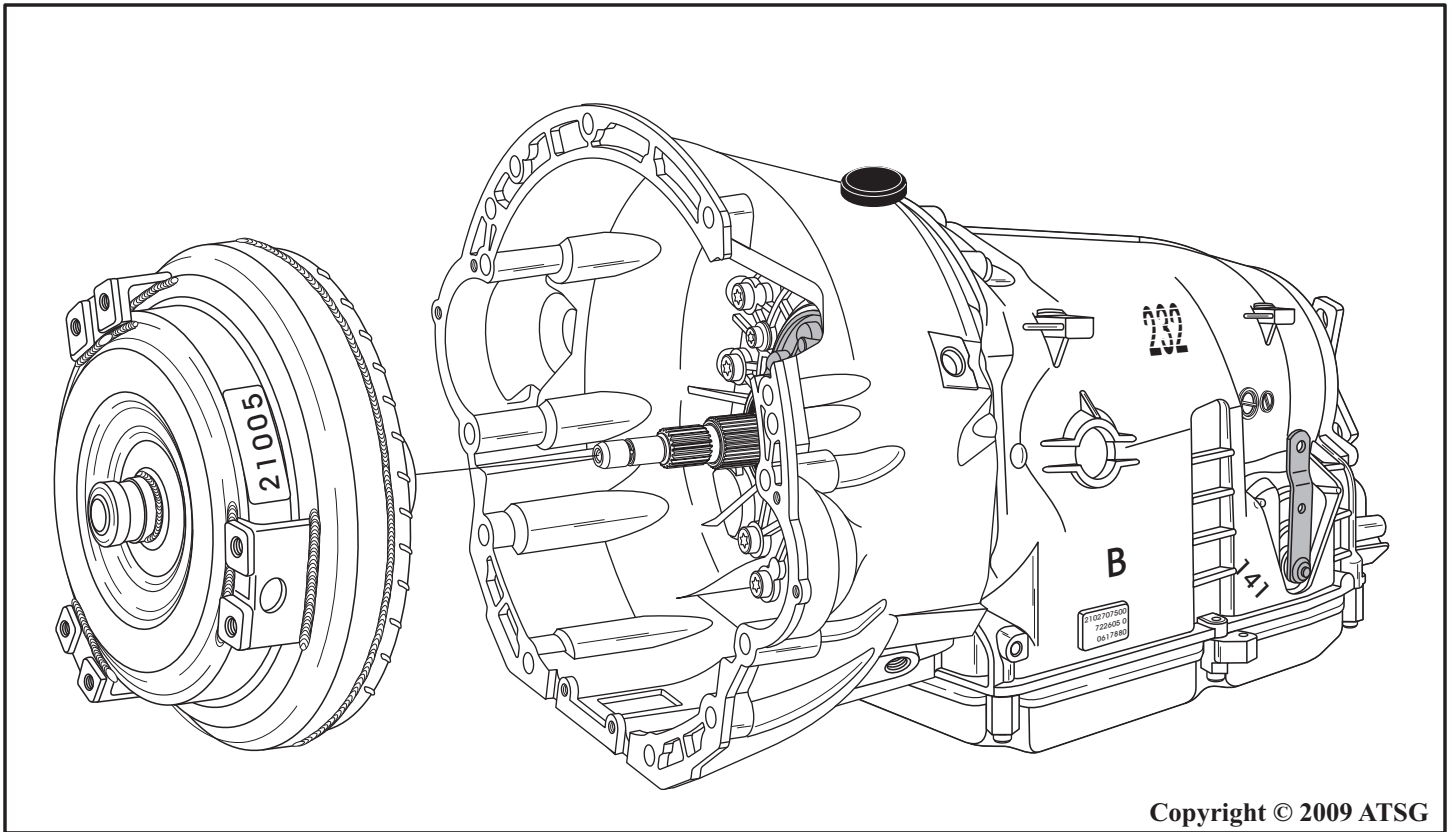

Figure 198
50. Lubricate the outside diameter of the converter hub with small amount of Trans-Jel®, and install torque converter, as shown in Figure 198.